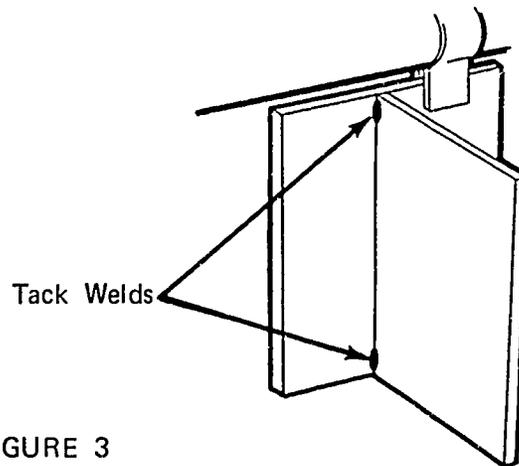

FIGURE 3
- E. Place metal in vertical position (Figure 3)